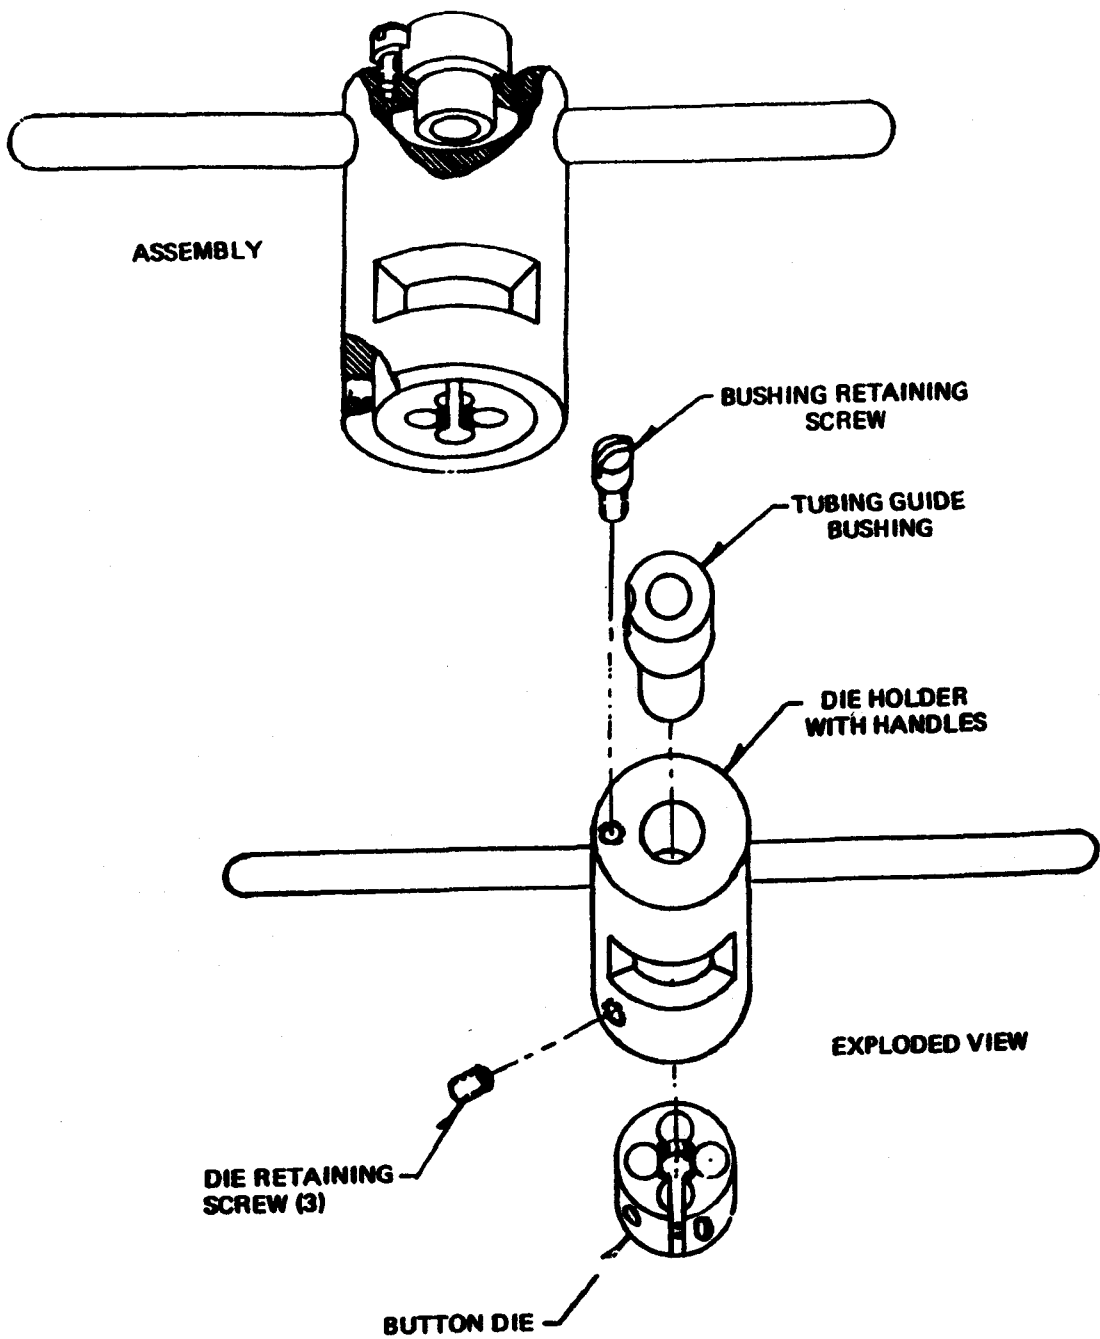

Figure 4. Threading Tool
A. Slip the tube guide bushing into place and align the curved slot with the bushing retaining screw hole Figure 4.
C. Unscrew the three (3) die-retaining screws sufficiently to permit the Button Die to be inserted into the recess, as shown in Figure 4.